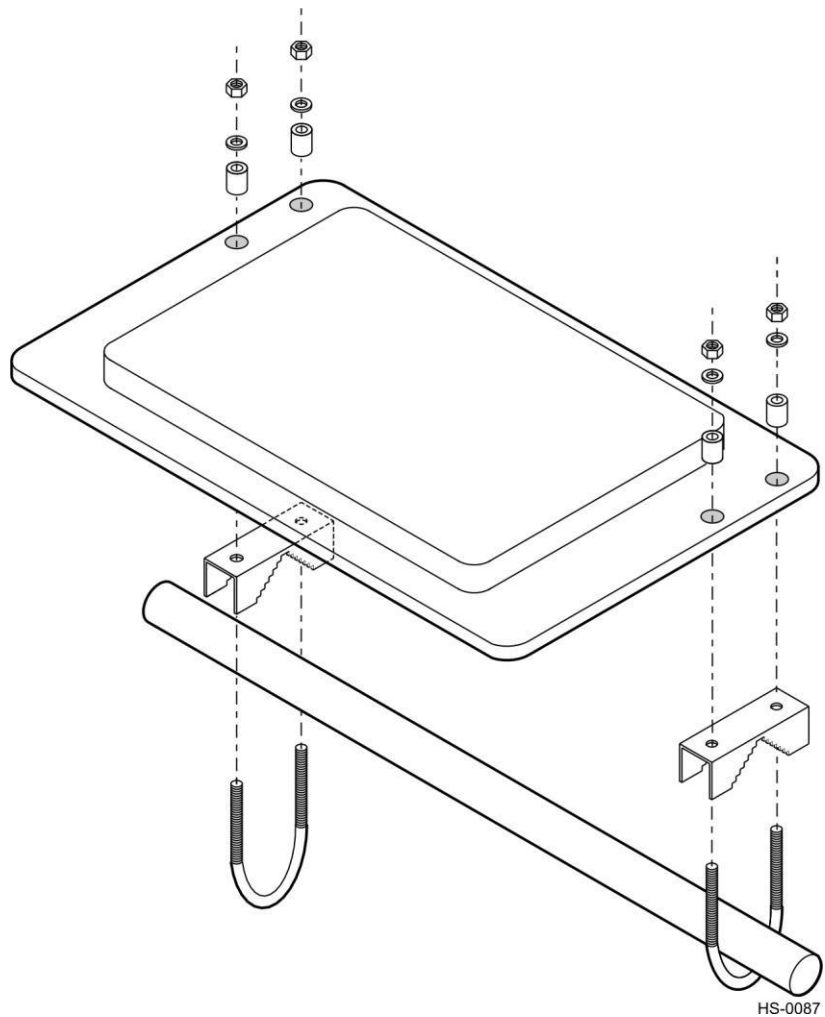

**Figure 10-11 Transmit/Receive Antenna Mounting and Connections**
1. Place the antenna below the mounting pipe and insert a U-bolt around the pole and down through the bracket on the side of the antenna closest to the center of the lane. This antenna should be mounted toward the driver side of the traffic lane. Place a spacer, lock washer, and nut over each end of the U-bolt, but do not tighten the nuts. Repeat for the other U-bolt (Figure 10-11).